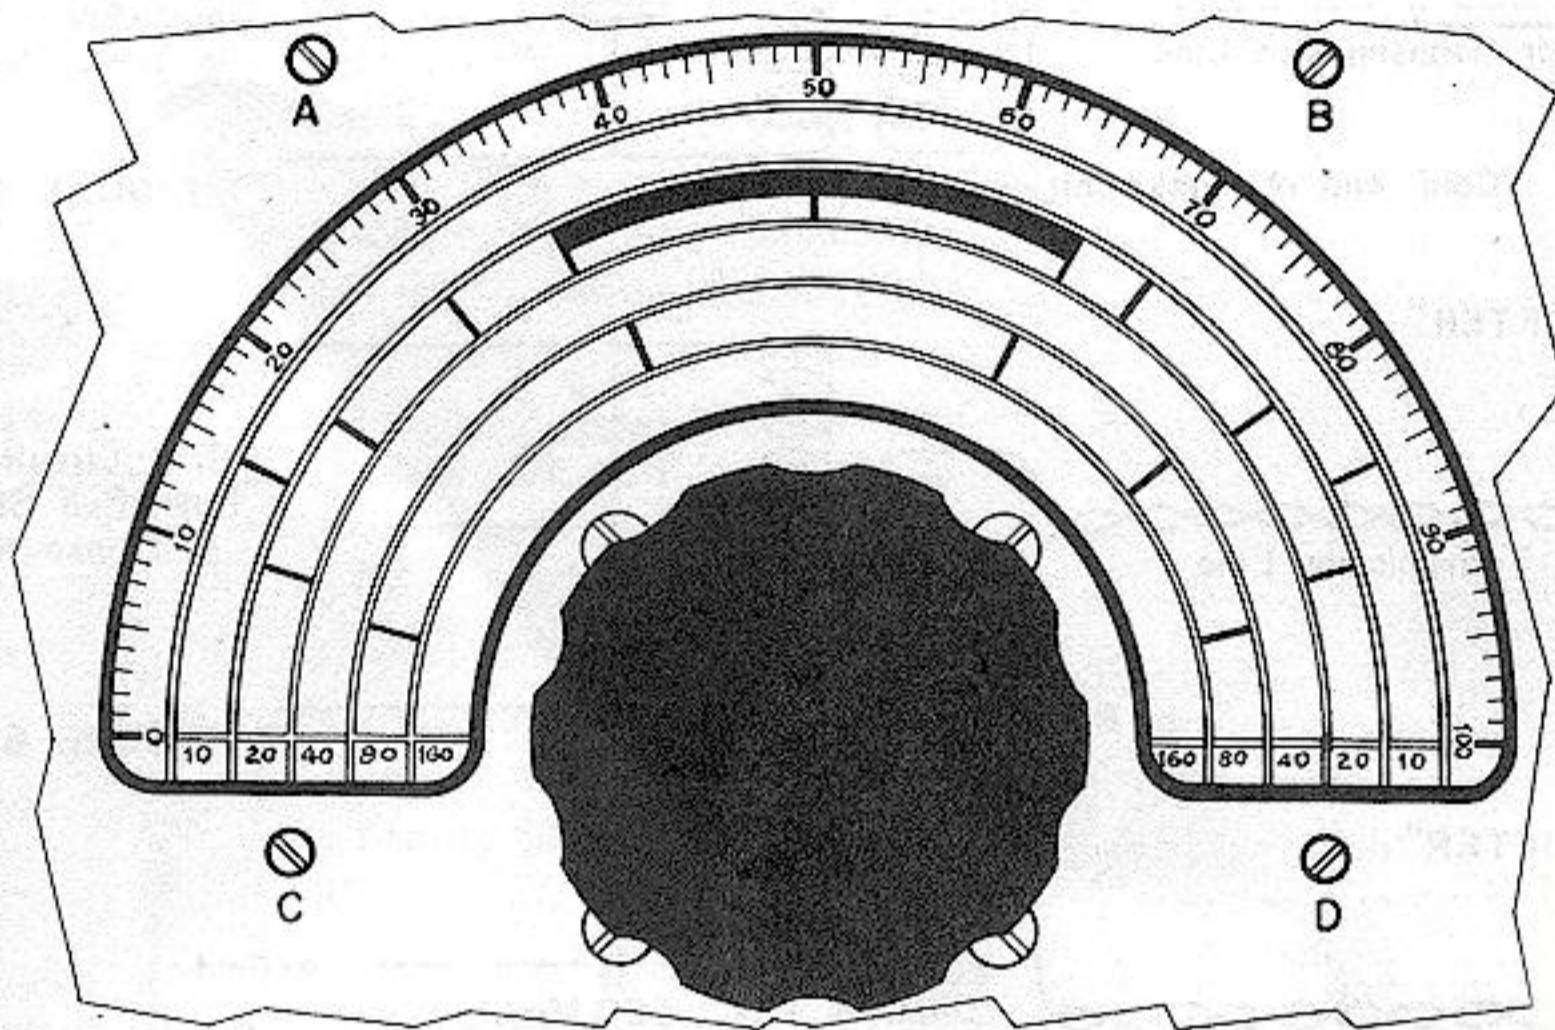

Figure 8 — DeLUXE MODEL (NEW) — CALIBRATION DIAL
B. STANDARD and DELUXE MODELS (OLD): A complete calibration curve (see Figure 8) should be drawn for each band to be used. Points should be drawn on graph paper using known frequencies at the ends of each band, and at as many other points as can be accurately recorded using a frequency meter or frequency standard.